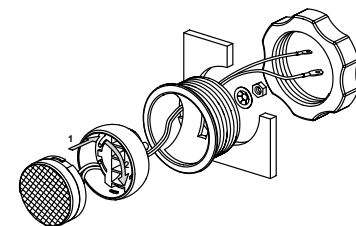

Figure 2. Mounting the Kappa 10.2t tweeter using the I-Mount flush-mounting kit.
- For best treble response when tweeters are flush-mounted in the I-Mount™ (pat. 5,859,917), aim them at the listening position by adjusting the tweeter angle in the cup, tightening the small metal locking nut behind the assembly and rotating the entire assembly in its mounting location before tightening the large plastic locking nut behind the panel (see Fig. 2).